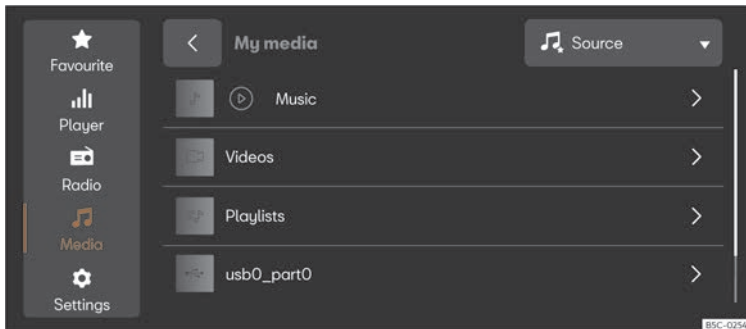

Fig. 177 Schematic representation: Media view
- Press **HOME** > > >>> **Fig. 177**.